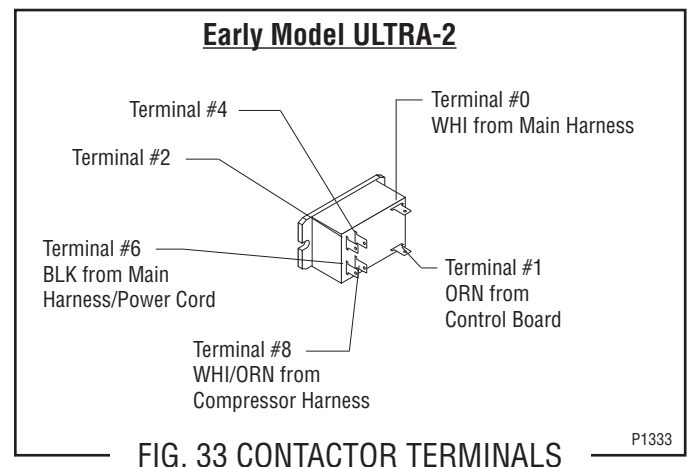

FIG. 33 CONTACTOR TERMINALS
4. Refer to Fig. 33 and 34 to reconnect the wires.